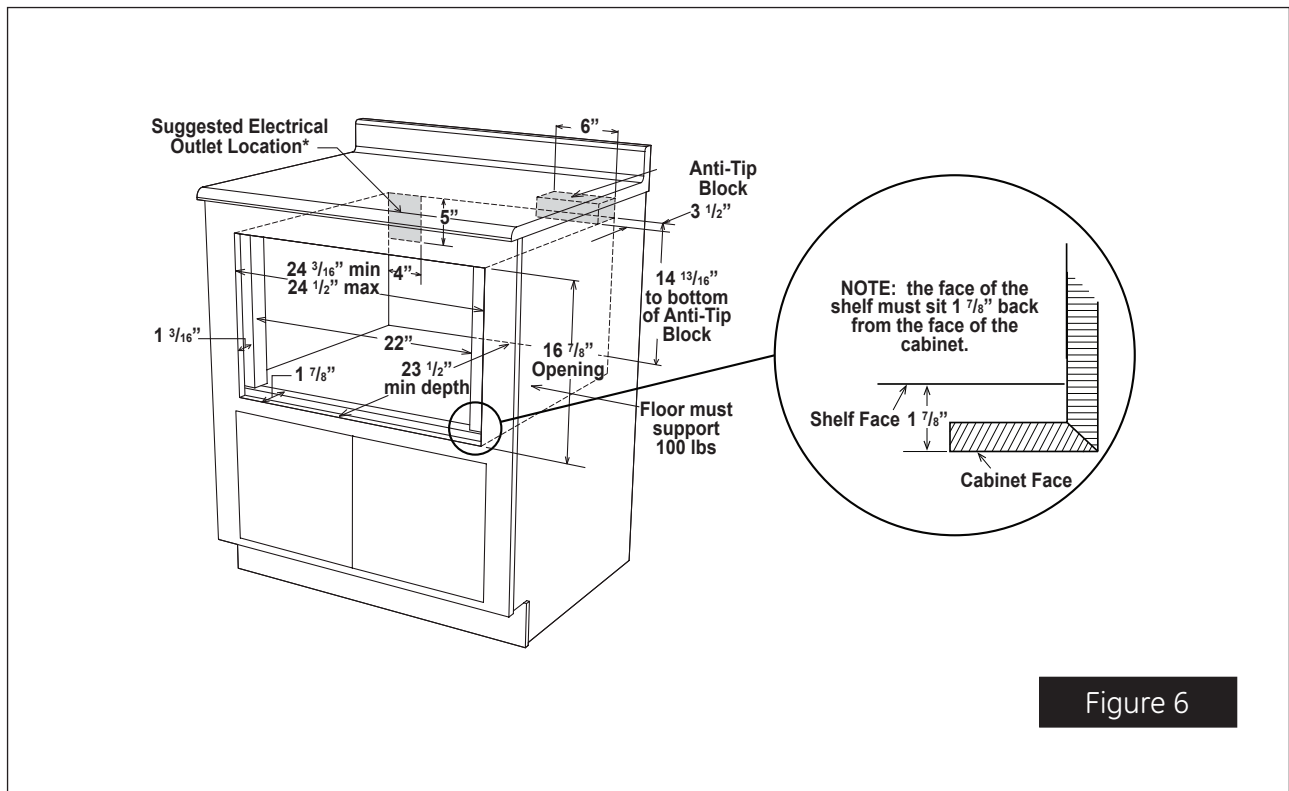

Figure 6
1. Prepare cabinet opening as shown in Figures 6, 7, 8, and 9.